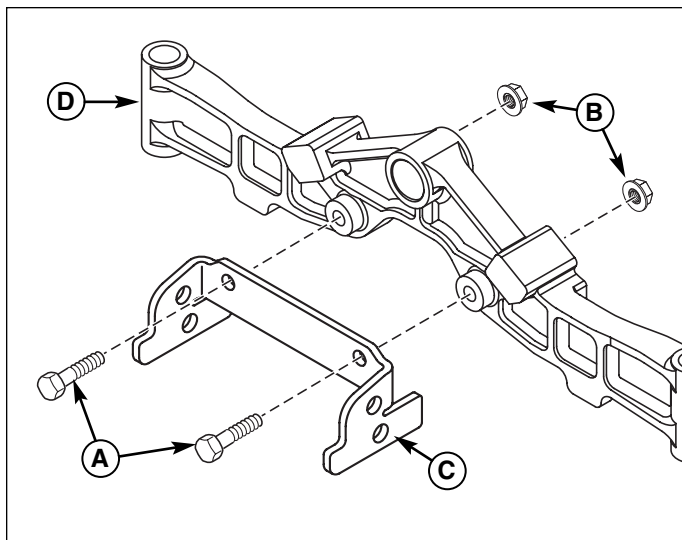

Figure 3. Install Front Weight Carrier Bracket
1. Install the new bracket (C, Figure 3) to front axle (D) securing with existing 7/16-14 capscrews (A) and existing 7/16-14 locknuts (B).